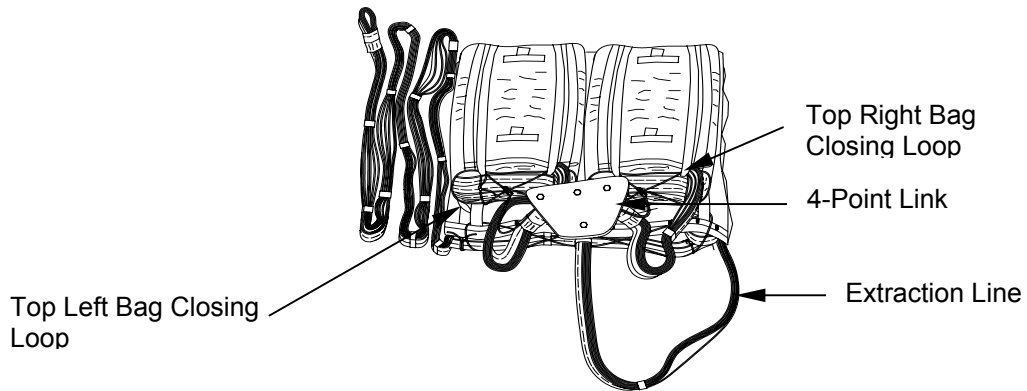

Figure 15. Safety Ties Installed.
- d. Use four-point link to connect parachute adapter webs to the extraction line. Pass one length of ½-inch tubular nylon around the left bolt on the four-point link and through top left bag-losing loop. Take second length around the right attaching bolt on the four-point link and through the top right bag-closing loop. Secure ends with surgeons knot, locking knot and an overhand knot in the running end (figure 15).